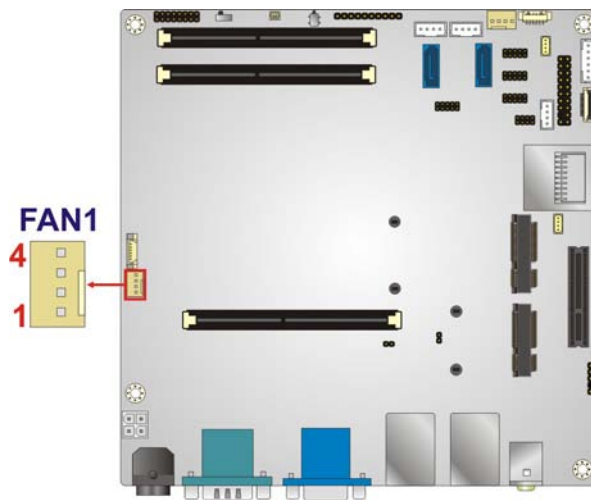

Figure 3-5: CPU Fan Connector Locations
- CN Location: See **Figure 3-5**